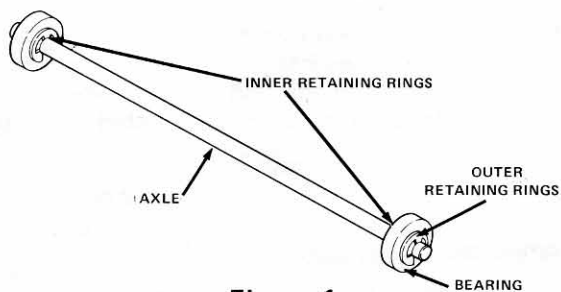

Figure 1
- a. Assemble two axles by installing two retainer rings, one in each inner groove. Place one bearing on each end of the axle and secure with an outer retaining ring. (See Figure 1)